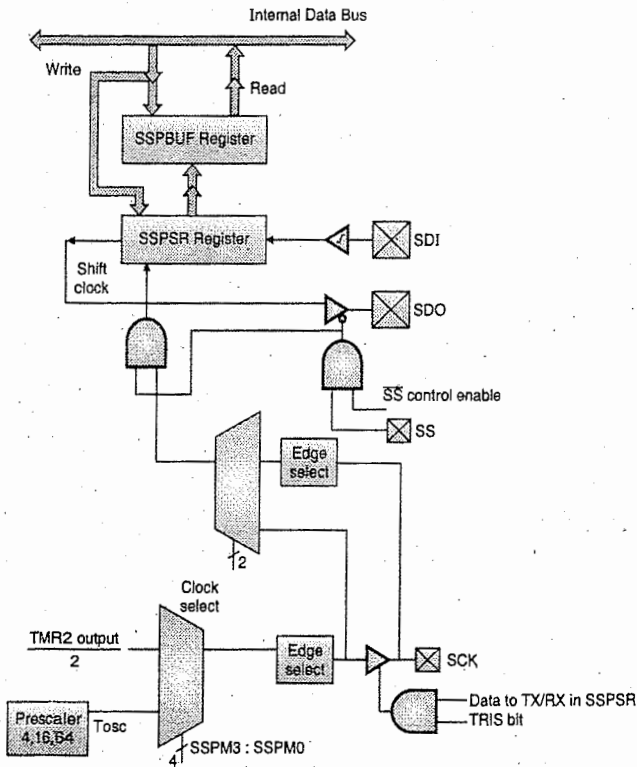

Fig. 12.9.1 : MSSP structure in SPI mode
- Fig. 12.9.1 shows the MSSP structure in the SPI mode.